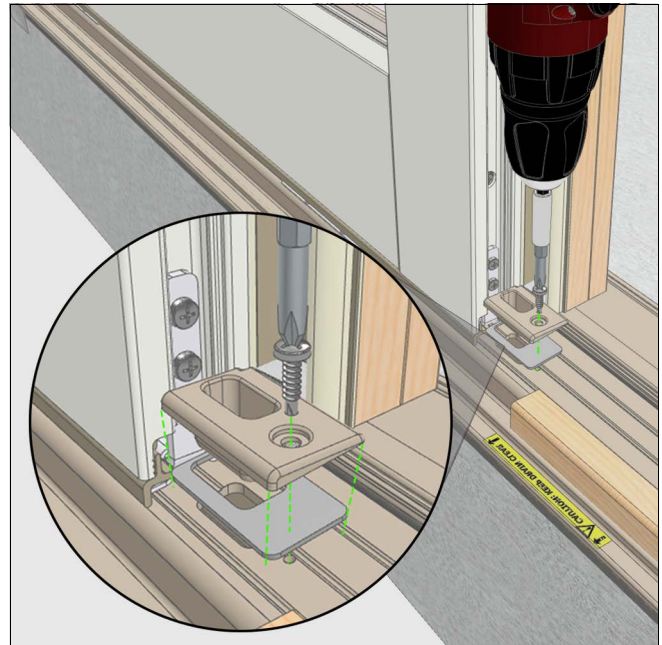

Figure 31
6. Install the sill strike using the sill color matched 8-18 x 3/4" pan head screw. See Figure 31.